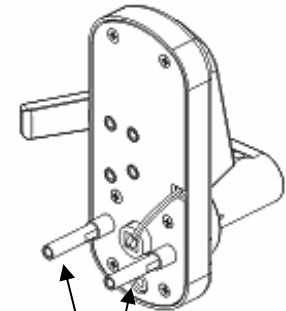

Fig 4
Screw in and tighten the two fastener extensions (C) into the front lock fastener posts, located on both side of the center hub. (Fig 4)